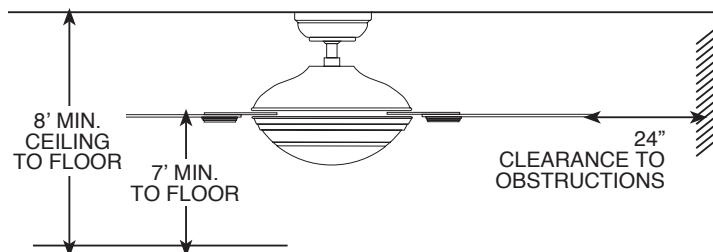

Figure 1. Wall Clearances
B. Installation hardware is included for a standard drywall or plaster ceiling. You will need a 4" x 1-1/2" or a 4" x 1/2" outlet box and wire nuts (2) which can be purchased from any hardware store or electrical supply house.
C. The fan blades must be mounted at least 7' above the floor. For maximum efficiency, they should not have any obstruction (walls, posts, etc.) within 24" of the blade tips. See Figure 1 for mounting distances.